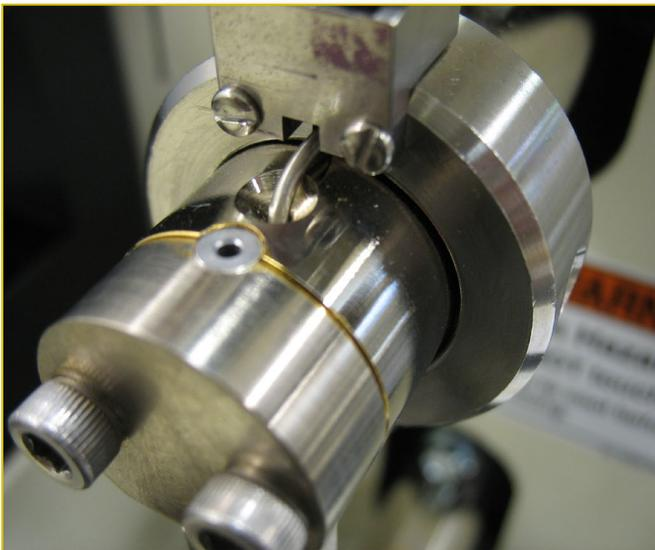

Figure 21 Tube Aligned With Top of Bus Bar
13. Align the top of the heater tube so that it is flush with the top of the bus bar contact [Figure 21].